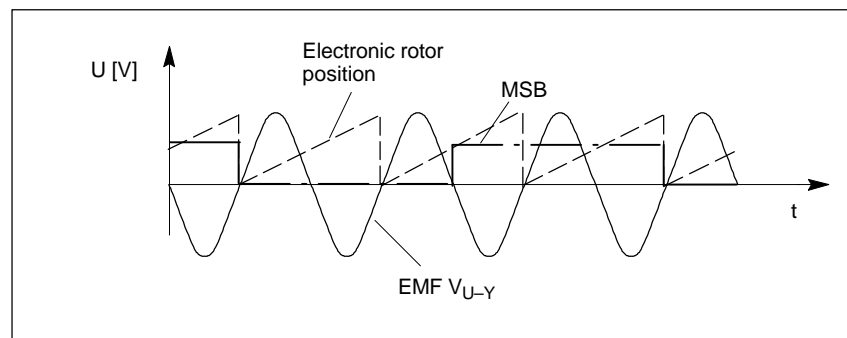

Fig. 1-11 Signal characteristics and assignment for a positive direction of rotation (clockwise of rotation when viewing the DE)
- Motor EMF V_{U-Y} (electromotive force) (2, Fig.1-11)
3. The encoders are rotated so that a signal characteristic, as shown in Fig. 1-11 is obtained.